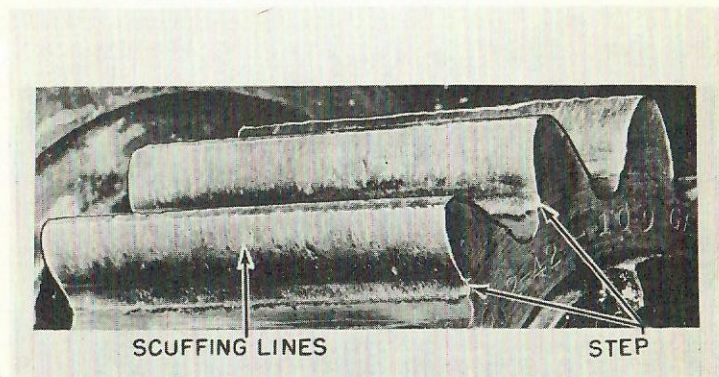

Fig. 17-8
3. Loss of the Involute Profile - See Fig. 17-8.
Light scuffing, shown in Fig. 17-8 and characterized by the vertical, root-to-tip lines, is an indication of faulty lubrication which, if not corrected, may result in ultimate destruction of the teeth. The heat
5. When applying a new pinion to an old gear, be sure that the tip of the pinion tooth does not interfere with the step (see Fig. 17-8) which may have already been worn in the gear tooth. Interferences here will cause vibration which may be severe enough to result in broken pinion teeth and vibration damage to motor parts.